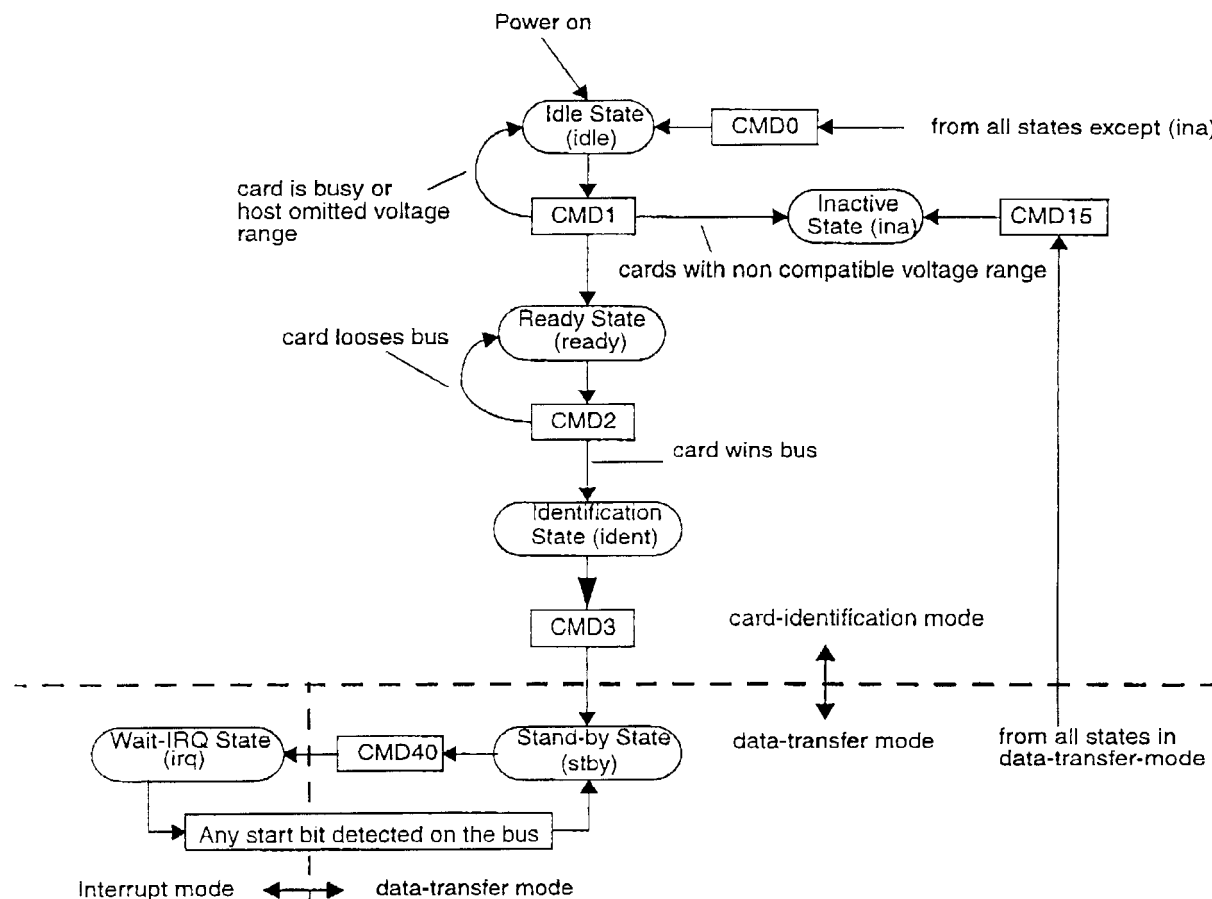
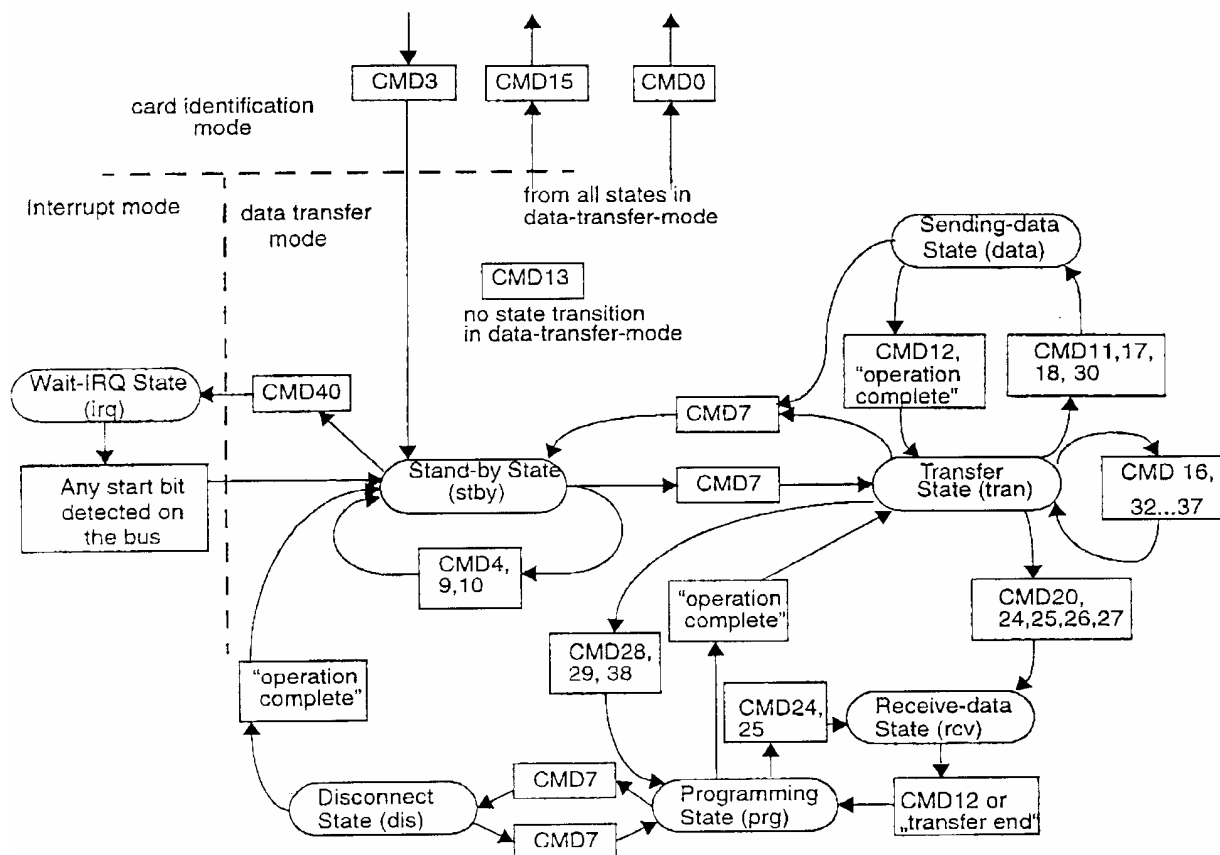

Figure 5-1 MultiMediaCard State Diagram (Card Identification Mode)
Figure 5-2 MultiMediaCard State Diagram (Data Transfer Mode)
A general overview of the command flow is shown in Figure 5-1 for the Card Identification Mode and in Figure 5-2 for the Data Transfer Mode. The commands are listed in the command tables (Table 5-3 through Table 5-11). The dependencies between the current MultiMediaCard state, received command and following state are listed in Table 5-12. In the following sections, the different card operation modes will be described first. Thereafter, the restrictions for controlling the clock signal are defined. All MultiMediaCard commands together with the corresponding responses, state transitions, error conditions and timings are presented in the following sections.
The following table shows the dependencies between bus modes, operation modes and card states. Each state in the MultiMediaCard state diagram (Figure 5-1 and Figure 5-2) is associated with one bus mode and one operation mode:
The relationship between the various data transfer modes is summarized in the card state diagram Figure 5-2, and in the following paragraphs:
- The MultiMediaCard may provide buffering for stream and block write. This means that the next block can be sent to the card while the previous is being programmed. If all write buffers are full, and as long as the MultiMediaCard is in Programming State (see MultiMediaCard state diagram Figure 5-2), the DAT line will be kept low.
Similarly, if an illegal command has been received, a MultiMediaCard shall not change its state, shall not respond and shall set the ILLEGAL_COMMAND error bit in the status register. Only the non-erroneous state branches are shown in the state diagrams (Figure 5-1 and Figure 5-2). Table 5-12 contains a complete state transition description.